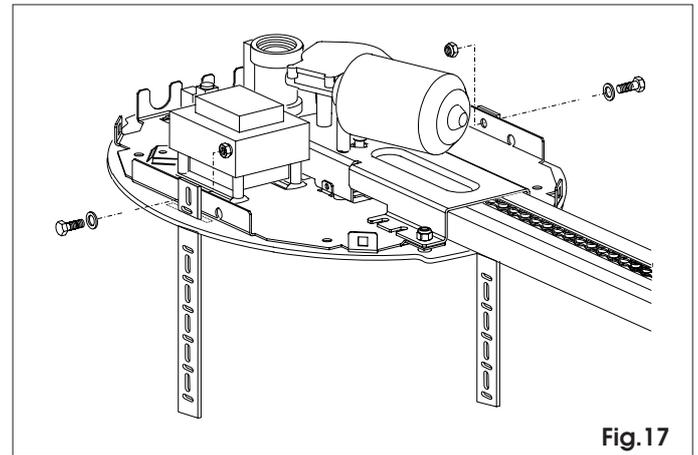

Fig. 17
7.9 Fit the supplied brackets in the slots and secure the operator with the nut (fig. 17).